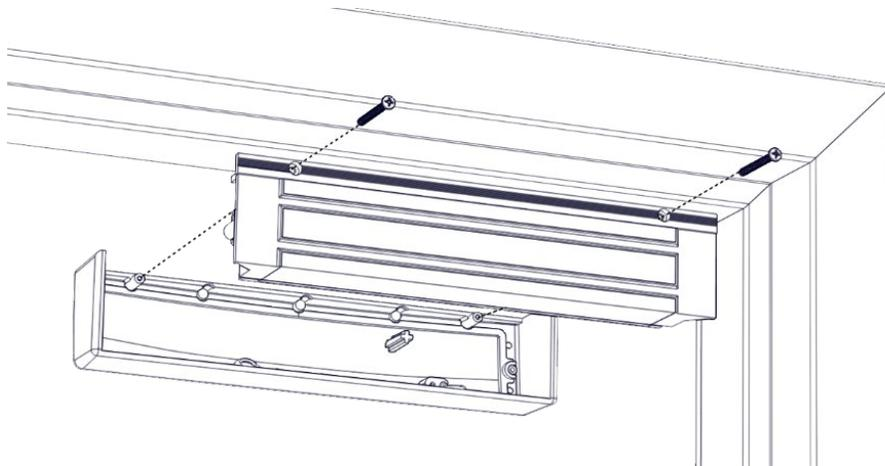

Figure 43. Installing the Lock Cover
- After calibration is complete and PIR is verified and adjusted (if necessary), RE-INSTALL the lock cover over the lock chassis and SECURE using the two (2) phillips screws (see Figure 43, “Installing the Lock Cover”).